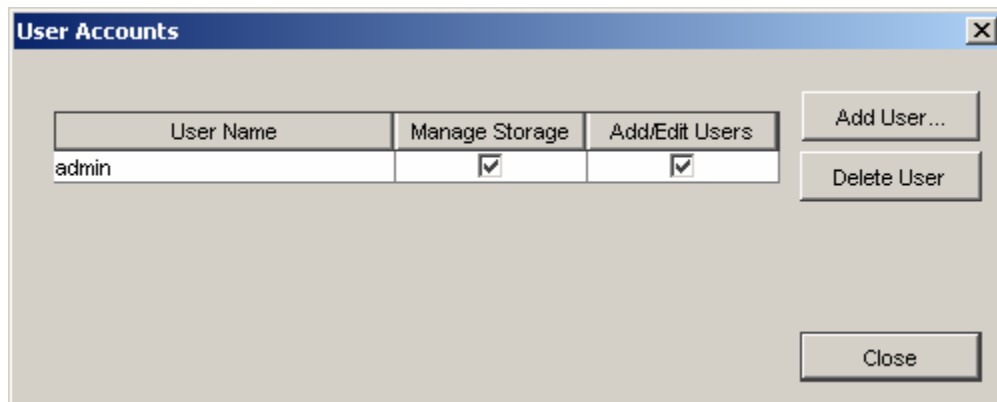

Figure 5-9 User Accounts Screen
2. On the **View** menu, click **User Accounts**. The User Accounts screen appears, with a list of the user accounts that have been defined (see Figure 5-9).